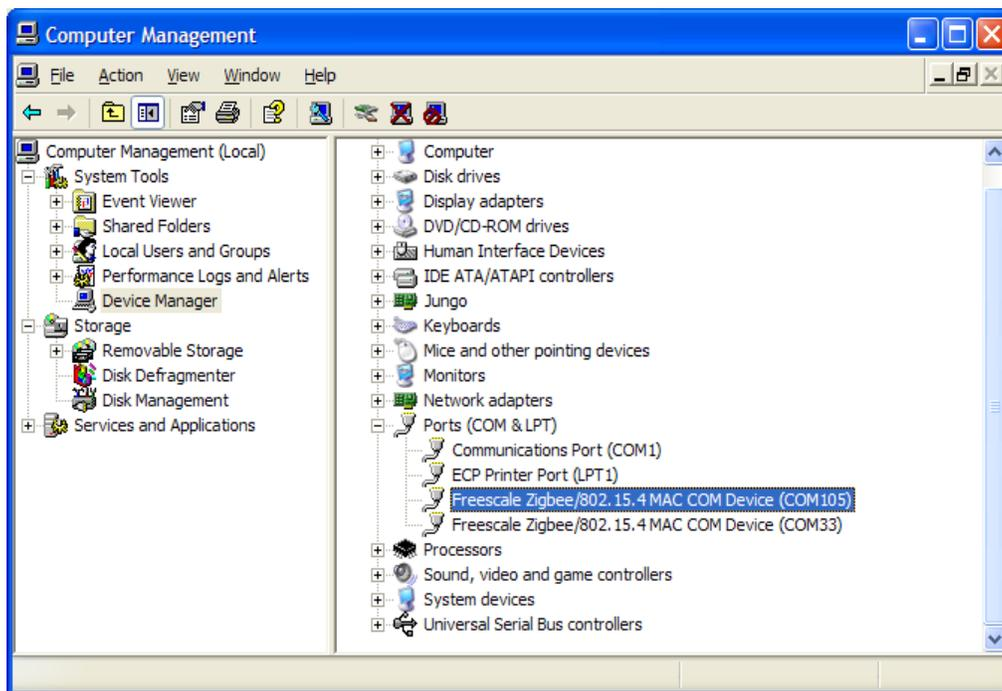

Figure 5-20. COM Ports in Device Manager
2. In the Windows Device Manager, under the Ports (COM & LPT) option, two devices labeled either “Freescale ZigBee/802.15.4 MAC COM Device” or “USB Serial Port” appear as shown in Figure 5-20. (The COM ports shown in Figure 5-20 will be different on every PC).